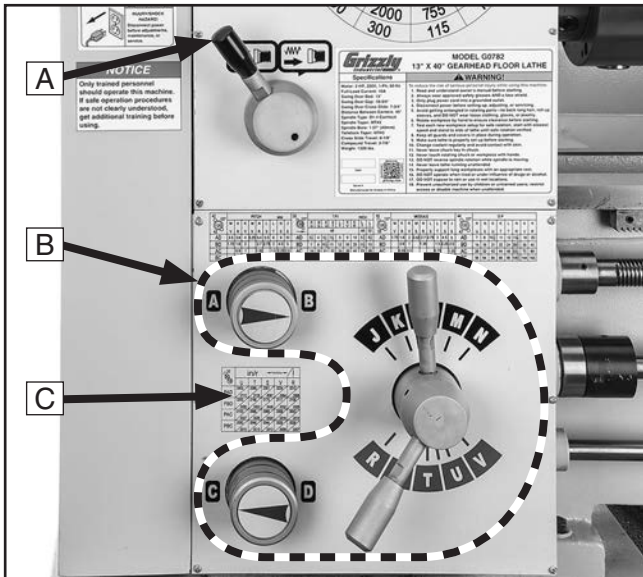

Figure 60. Power feed controls on the headstock.
Use **Figures 60–61** and the following descriptions to understand the power feed controls.
- A. Feed Direction Lever:** Selects the direction for power feed. When the lever is positioned as shown in **Figure 60**, the carriage will move to the left along the bed, or the cross feed will travel toward the front of the lathe.
The feed-rate chart (see **Figure 60** for location) displays the settings of the end-gears and headstock feed controls for feed rates.